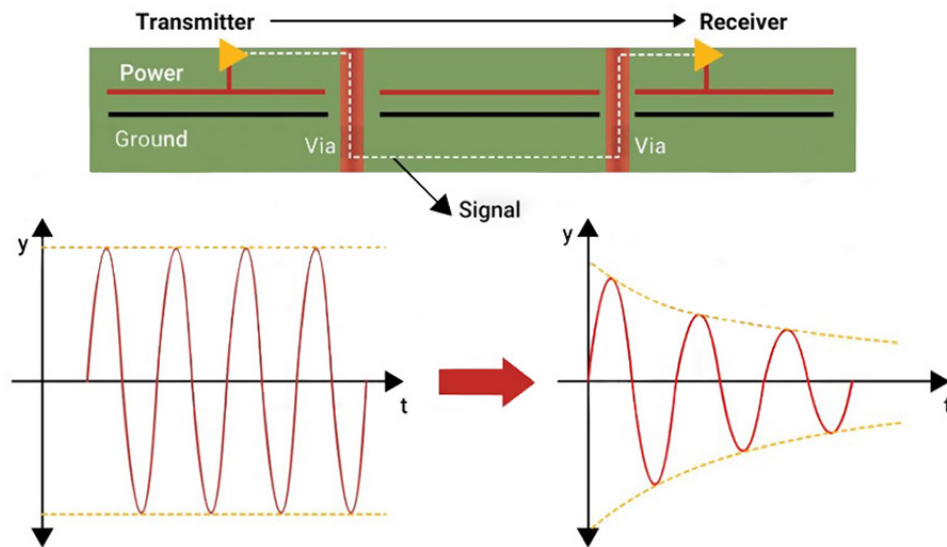

Figure 13. Signal attenuates with time while traveling from transmitter to receiver.
9. Signal attenuation. Signal attenuation refers to the reduction in signal amplitude caused by conductor and dielectric losses. Conductor loss increases with trace resistance and frequency, while dielectric loss is influenced by the dissipation factor and loss tangent (**Figure 13**).